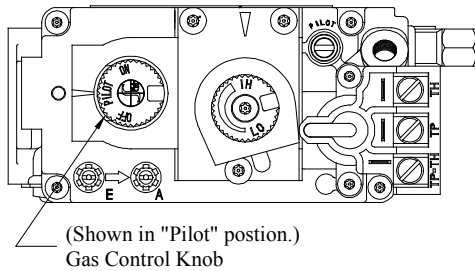

Figure 31. 'Hi-Lo' Adjustment on the **C-Series DV's** gas valve.
The **C-Series DV** is equipped with an adjustable burner, allowing you to raise or lower the flames. To adjust the flames, locate the black knob marked 'Hi-Lo', in the right of the gas control valve (See **Figure 31**). The front burners are not adjustable.
- An inspection of the gas valve, gas components, and pilot flame. For your convenience a 1/8" manifold pressure tap is supplied on the gas valve for a test gauge connection. See **Figure 31 & 32**.
Pilot won't ignite	Disconnect remote wires and try to light pilot. If pilot now works, remote connections are faulty. Check wiring diagram figure 31.
Main burner will not light	1. Check wiring (see figure 31). 2. Check wall switch for proper connection.